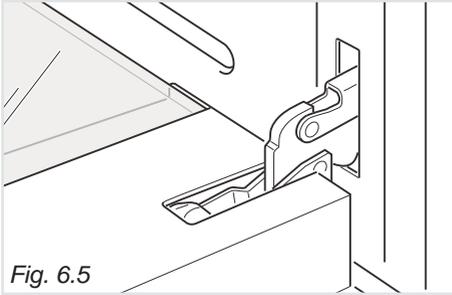

Fig. 6.5
- Open the door to the full extent (fig. 6.5).